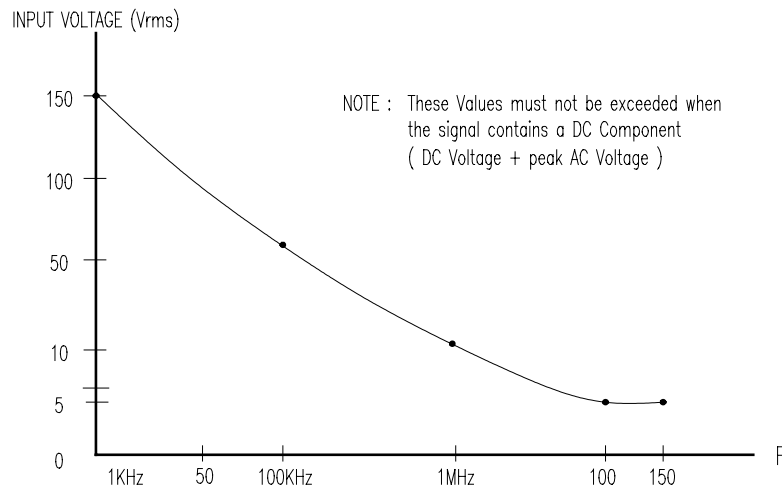

Fig. 6. Maximum Input Voltage-Frequency
- 1) When the impedance is 1M , the maximum voltage applied to the input depends on the frequency and the position of the SENSITIVITY switch. This relationship is shown in Fig. 6, and the values given in this table must be strictly observed. Initially set SENSITIVITY to 1/10, if the counter doesn't count, set the switch to 1/1 range and then perform measurement. This procedure will reduce the danger of damaging the input circuit.